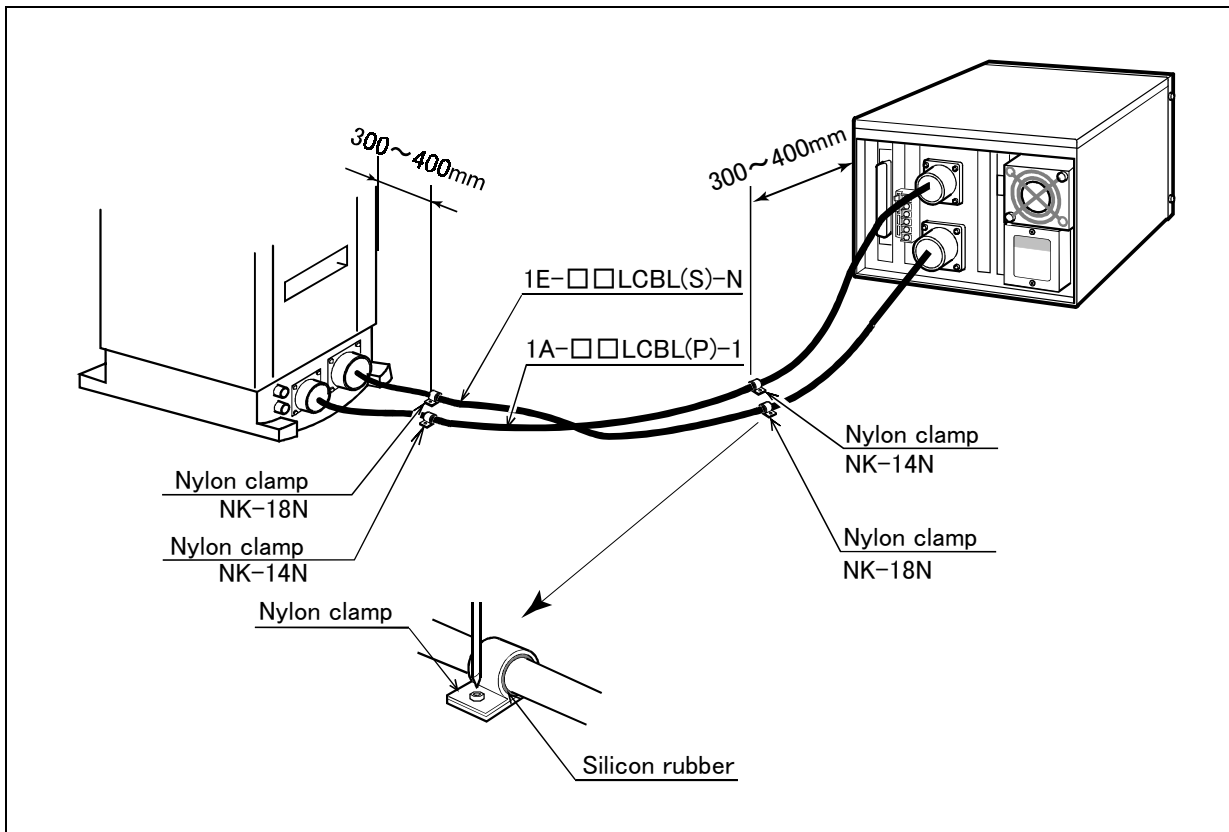

Fig.2-18 : Fixing the flexible cable
- (1) Connect the connector to the robot arm and controller.
- (2) Wind the silicon rubber around the cable at a position 300 to 400 mm from the robot arm and controller as shown in Fig. 2-18, and fix with the nylon clamp to protect the cable from external stress.